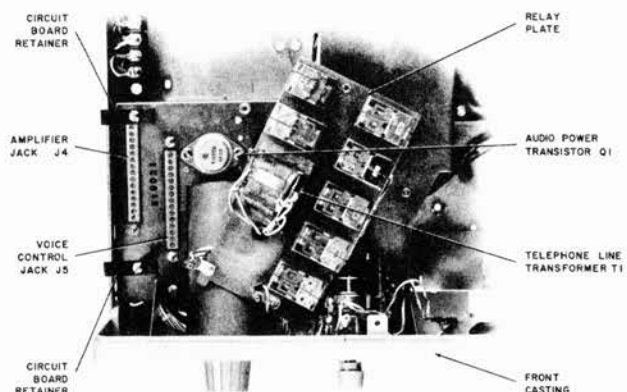

FIGURE 12 LOCATION OF AUDIO POWER TRANSISTOR Q1
- b. Loosen screws and rotate 2 Circuit Board Retainers 1/4 turn (fig. 12).
6. AUDIO POWER TRANSISTOR Q1 (fig. 12):
- d. Remove one small (#4-40 x 1/4") screw and carefully swing Relay Plate out of the way as shown in fig. 12.